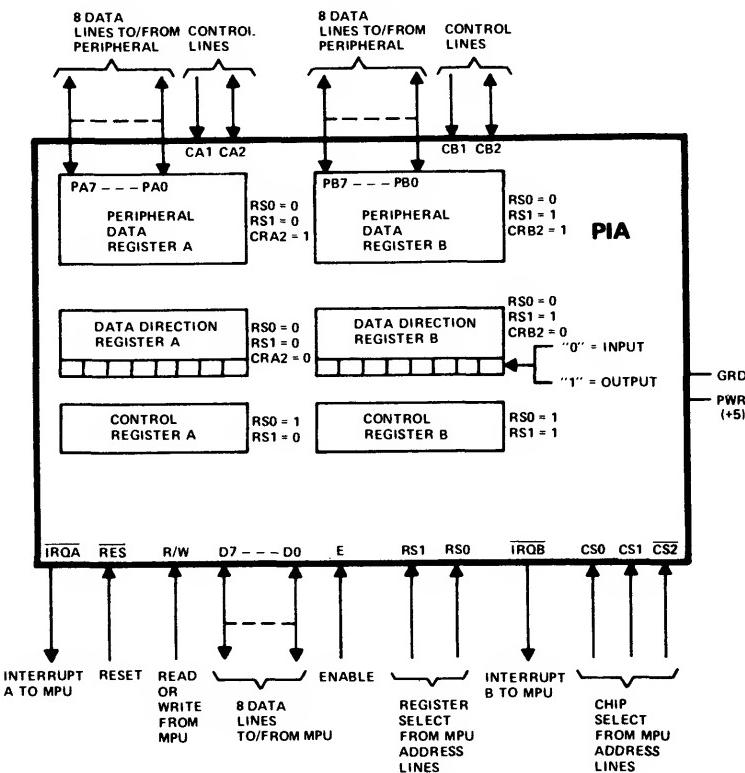
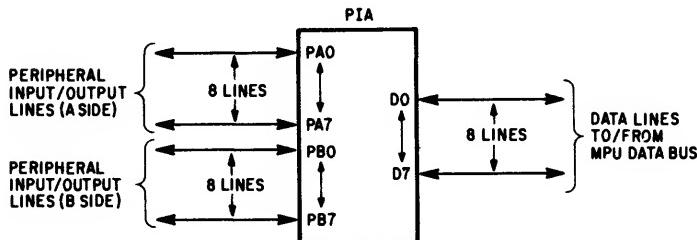
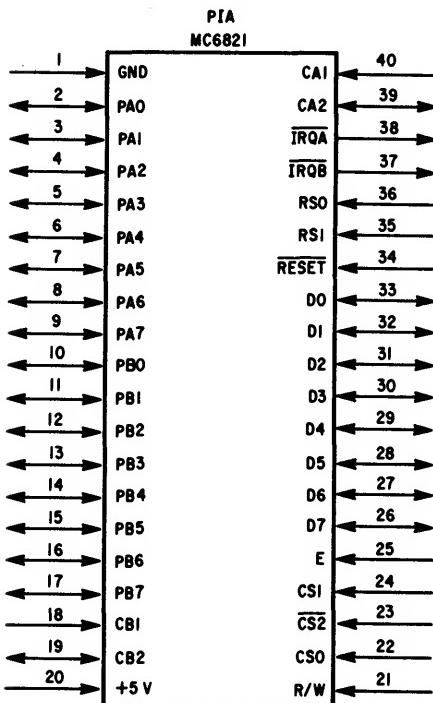

Fig. 9.14 MC6821 PIA
Fig. 9.15 MC6821 PIA input/output lines
Fig. 9.16 MC6821 package
The MC6821 Peripheral Interface Adapter (PIA) is an N-MOS device housed in a 40-pin package and used as a means of interfacing peripheral equipment and external signals with the MPU (Fig. 9.14). The PIA communicates with the MPU through the same eight-bit bidirectional data bus that the RAMs and ROMs share. The PIA has two separate eight-bit bidirectional peripheral data busses for interfacing to the outside world. The 16 bidirectional input/output lines may be programmed to act as either input or output lines (Fig. 9.15).
In addition to the 24 lines shown in Fig. 9.15, there are three chip select pins (CS0, CS1, and $\overline{CS2}$), a reset pin (RES), two interrupt pins (IRQA and IRQB), a read/write Pin (R/W), four control line pins (CA1, CA2, CB1, and CB2), an enable pin (E), two register select pins (RS0 and RS1), and two input power pins (+5 and ground), as shown in Fig. 9.16.